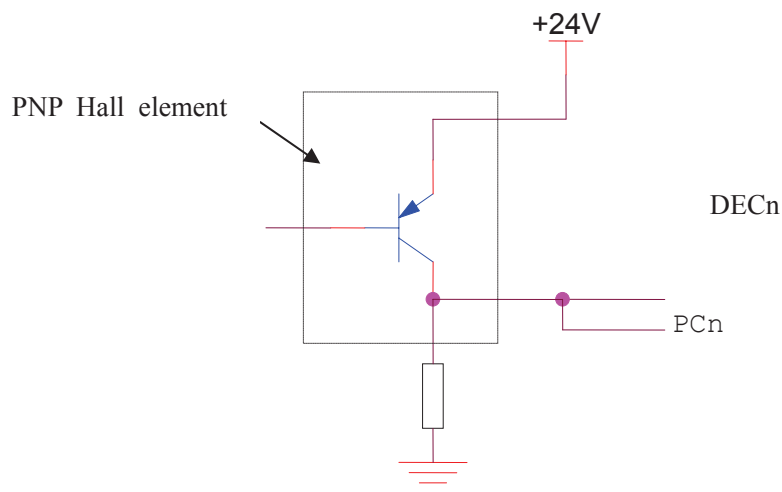

Fig 2-9 Connection using PNP Hall elements
b) The connection for PNP Hall elements taken as both deceleration signal and zero signal is shown in Fig. 2-9: